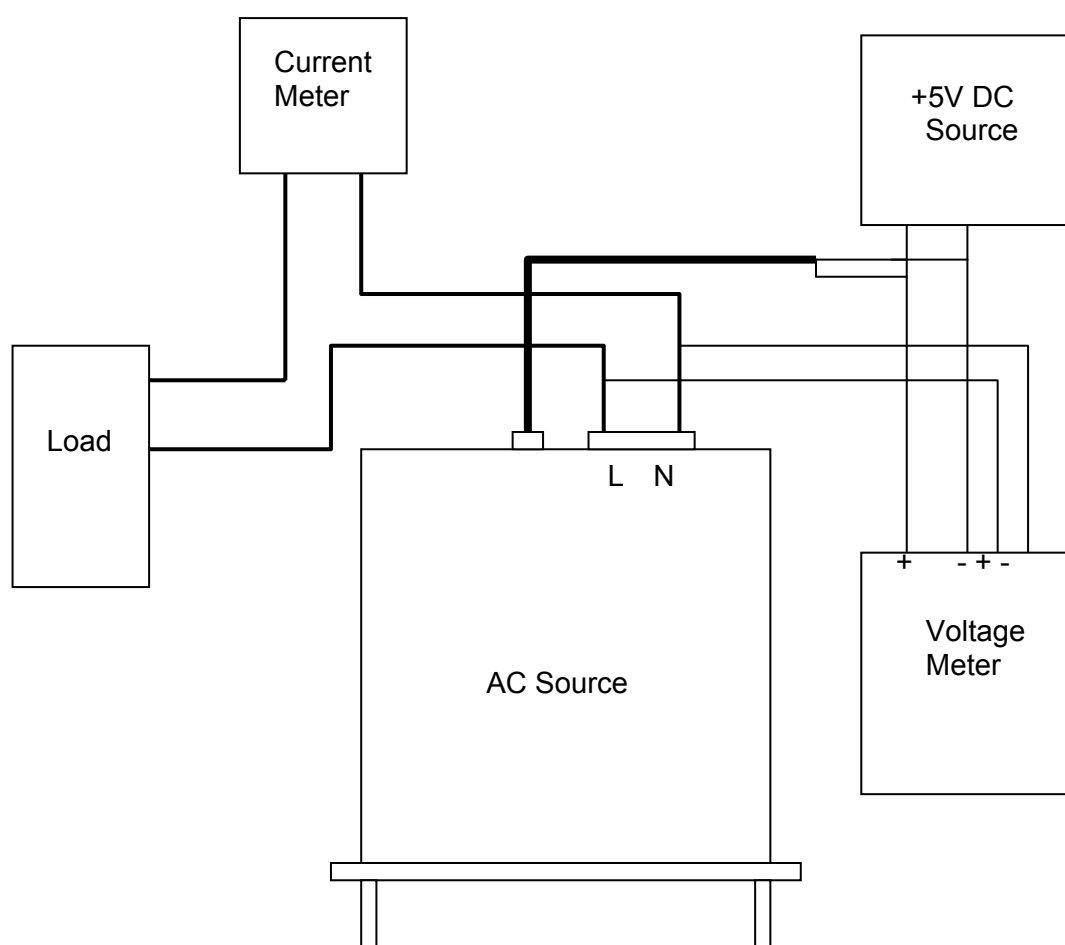

Figure 4-1
The ac source built a simple way to calibrate the output and measurement accuracy without opening cover. Users can do it just follow the procedures step by step. A voltage meter, current meter, suitable load and +5V dc source are needed for while calibration procedure. Connections for these instruments please refer to Figure 4-1. There are three items need to calibrate. But it is not necessary to calibrate all at once. User can just choose one item if needs.
1. The Vdc offset may be positive or negative. The positive of DVM connect to the line of AC source output, and the negative of DVM connect to the Neutral of AC source output. See Figure 4-1.